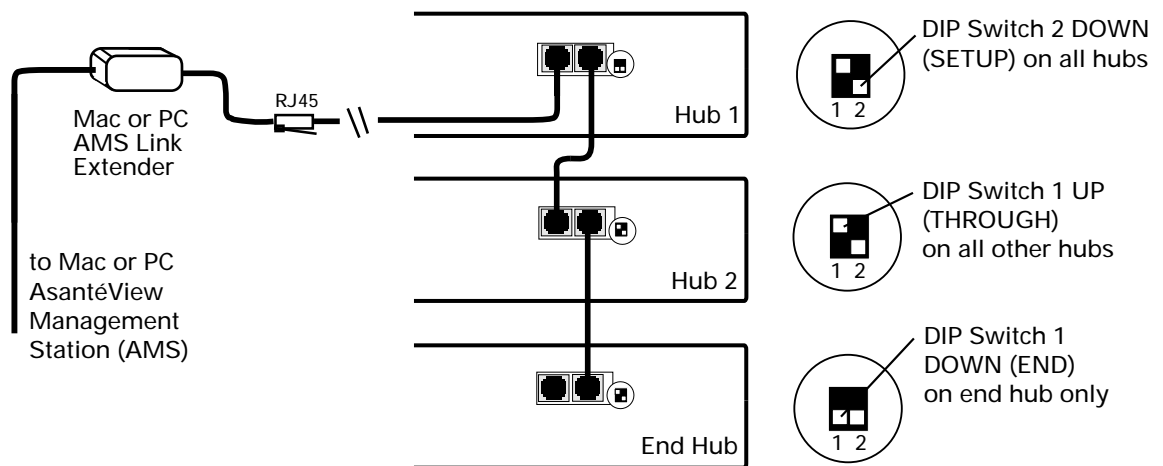

Figure 4 Connecting hubs in an Out-of-Band daisy-chain
Connect the hubs in a daisy-chain as shown in Figure 4 on page 13.
- 2 Set DIP switches on the hub as shown in Figure 4 on page 13.